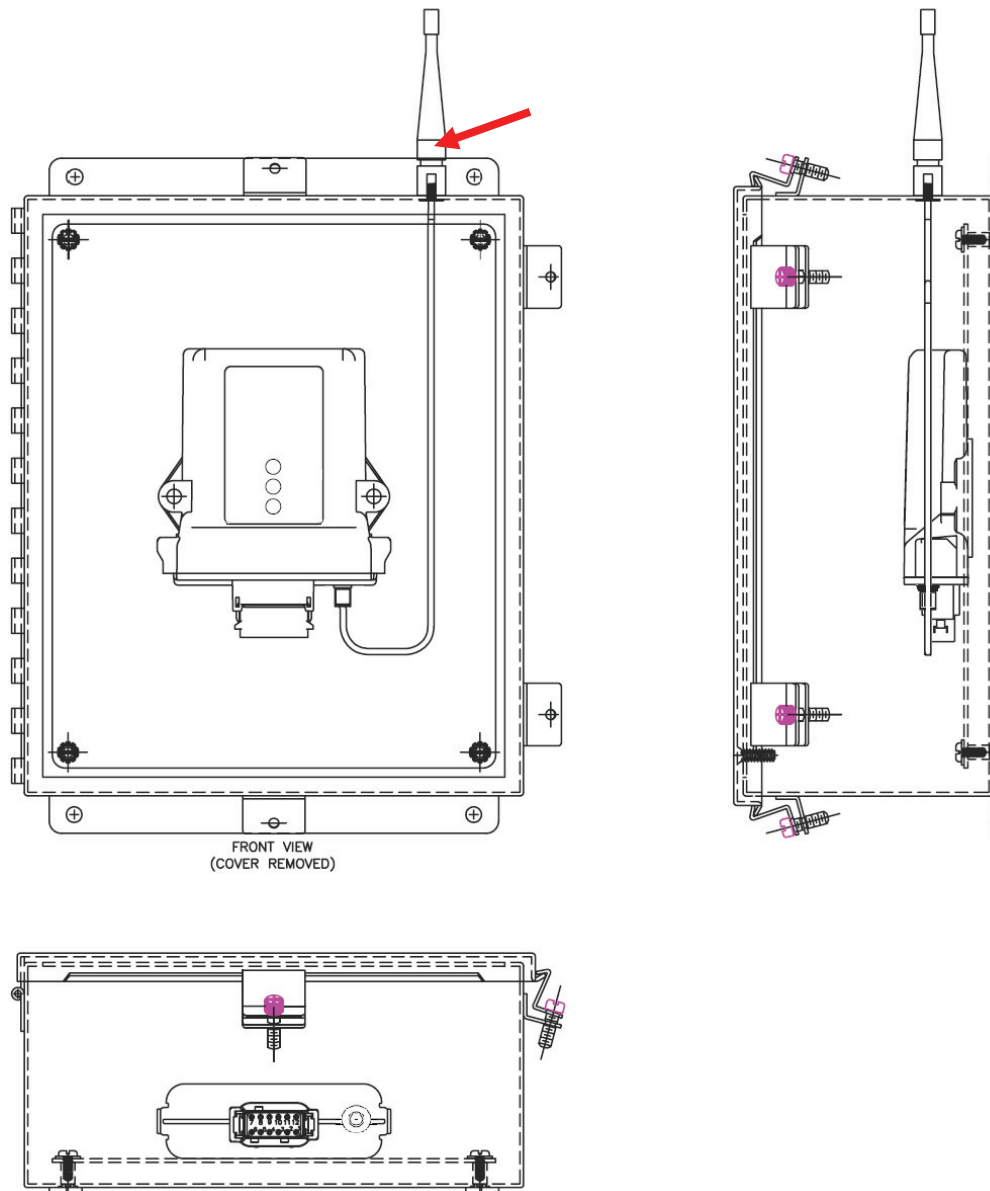
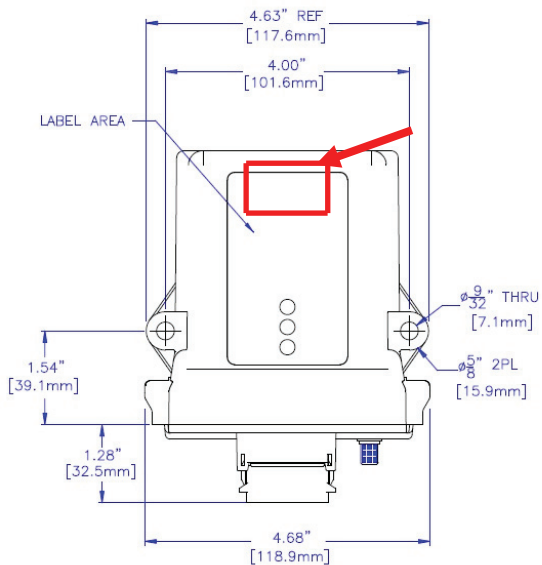

Fig. 1: Remote Antenna (marked in red)
Fig. 3: CAN-2 with Internal Antenna (red)
1. Determine the location of your antenna from **Fig. 1** through **Fig. 3** (the antenna is designated with the red arrow). **Be sure to mount the receiver antenna in direct line-of-sight of the operator and free from all obstructions.**
5. If obstructions cannot be cleared, or the unit must be mounted inside a metal enclosure, the remote antenna should be used (*see Fig. 1*).